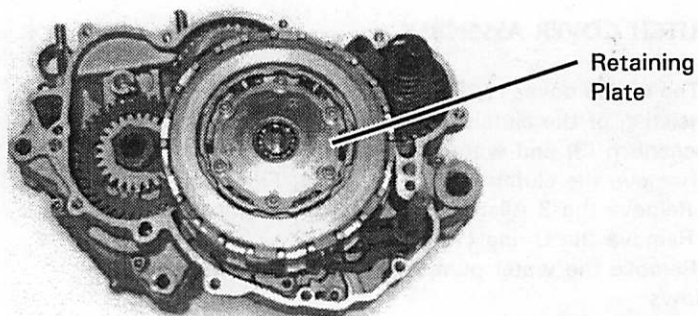

**Figure 16**
- Remove the O-ring (1, Figure 16).
3. Remove the clutch cover (2, Figure 16) as follows: